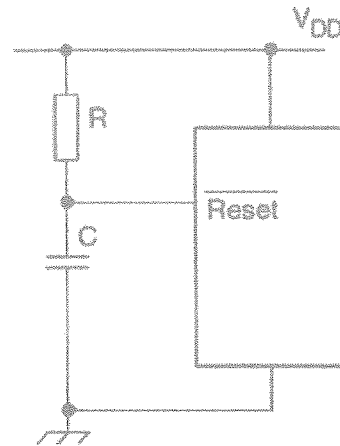

Figure: Q2
f) For the circuit in Figure Q2 what is the purpose of RC circuit that is connected to the RESET input of the microcontroller?